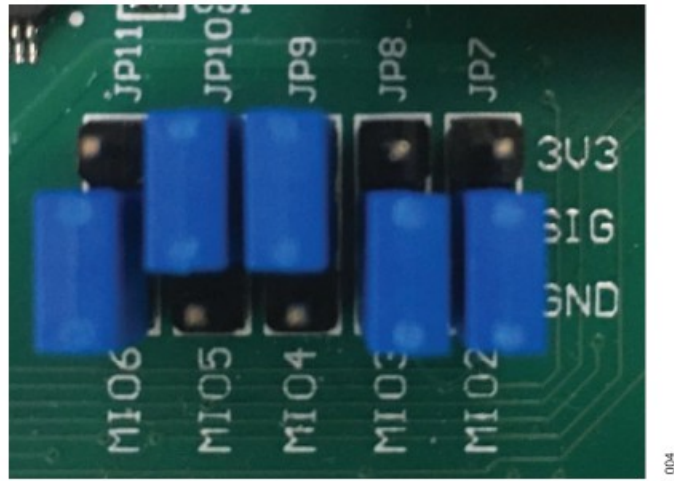

Figure 4. ZedBoard Boot Configuration Jumpers
4. Ensure the ZedBoard boot configuration jumpers are set to use the Micro-SD card as shown in Figure 4. To avoid potential damage when JVIO is changed as described in Table 1, ensure that the VADJ SELECT jumper is set to the correct voltage for the EVAL-AD4857FMCZ.